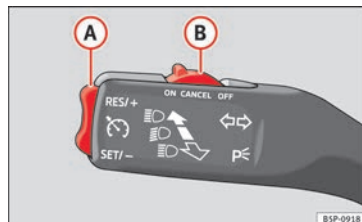

Fig. 135 Turn signal and main beam headlight lever: switch and rocker switch for the cruise control.
- Push the switch **» Fig. 135 (A)** to the left to **ON**.